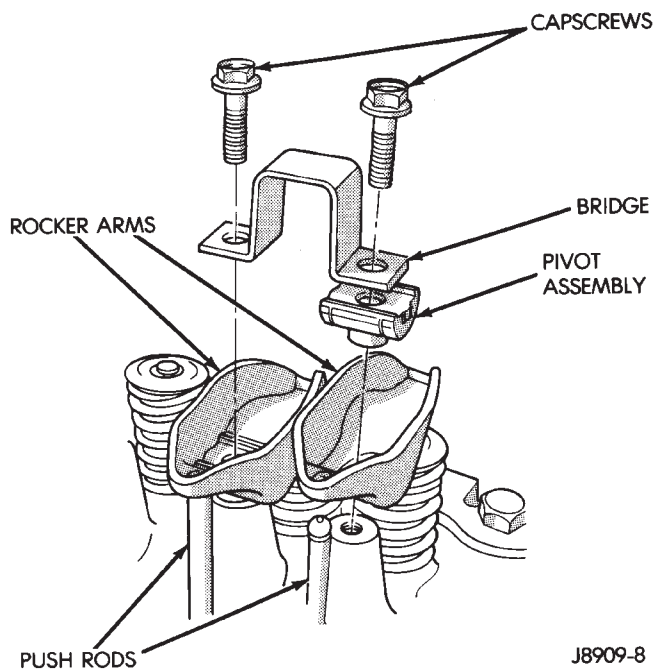

Fig. 34 Rocker Arm Assembly
(1) Remove the engine cylinder head cover.
(2) Check for rocker arm bridges which are causing misalignment of the rocker arm to valve tip area.
(3) Remove the capscrews at each bridge and pivot assembly (Fig. 34). Alternately loosen the capscrews one turn at a time to avoid damaging the bridges.
(4) Remove the bridges, pivots and corresponding pairs of rocker arms (Fig. 34). Place them on a bench in the same order as removed.
(5) Remove the push rods and place them on a bench in the same order as removed.